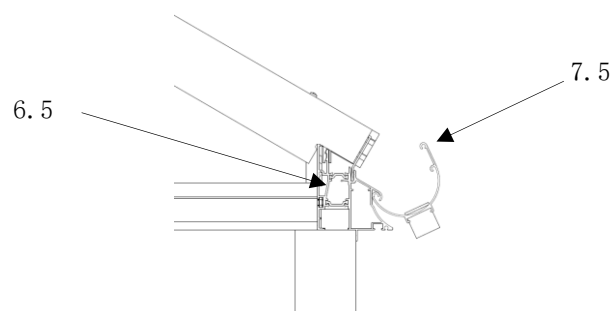

fig. 76
- hang the rain gutters (**item 7.5**) at a slight angle in the groove of the eaves profile (**item 6.5**). (*fig. 76*)